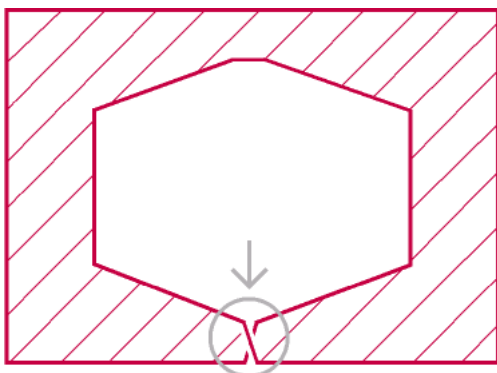

Fig. 1: Incorrect crossing block outline
**In BEV, regardless of the direction in which the block is entered or the shape of the block, when the block outline crosses itself (see Fig 1, left) an improper block is created (i.e. not a true polygon.)**